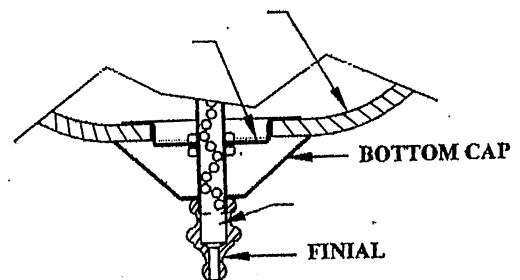

FIGURE 4
7. Place the finial over the threaded pipe and, while letting the chain and plastic connector retract into the pipe, tighten the finial securely. Refer to Figure 4 for further clarification.